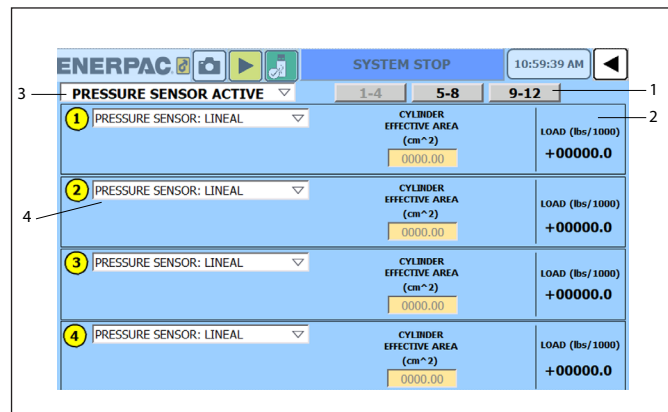

Figure 24: Cylinder load sensor screen detail
- Pressure Sensor Lineal: Other way to measure load weight is through pressure sensors. To make the calculation, the cylinder effective area is required. Refer to Figure 24 for detailed view of this mode.